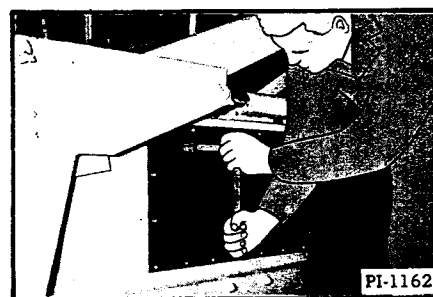

Fig. 64 Loosen the Intermediate Chain
7. Loosen the intermediate (inside clutch) chain (Figure 64).